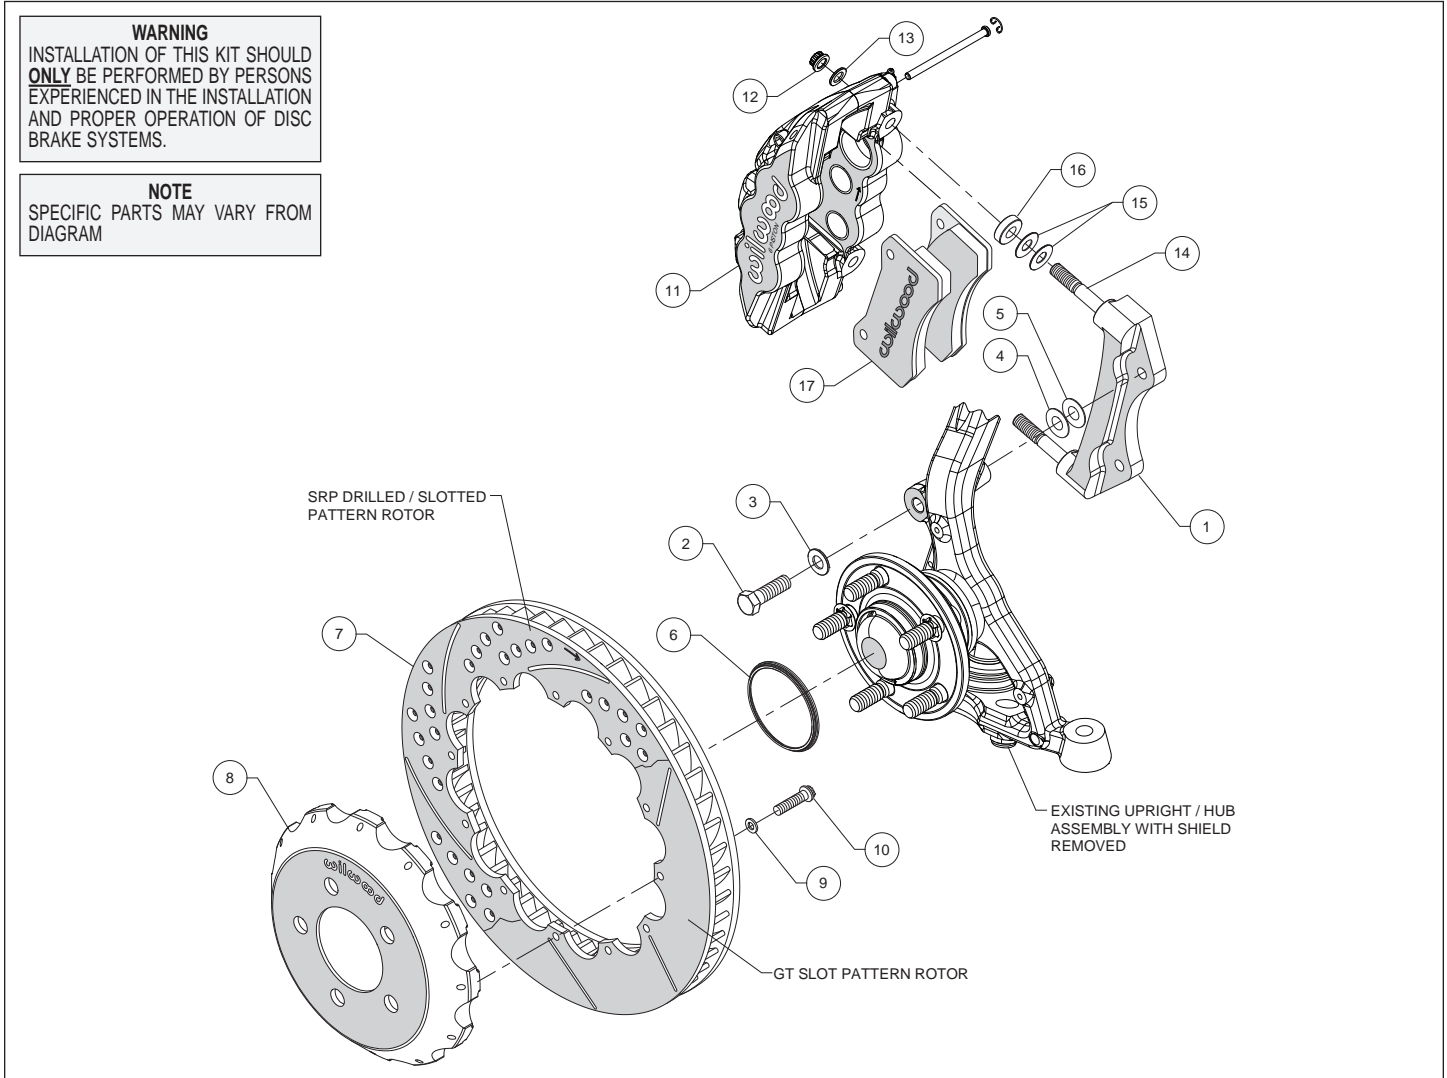
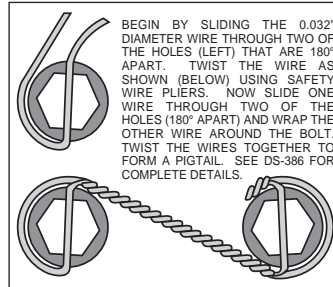

Figure 1. Typical Installation Configuration
Figure 3. Safety Wire Diagram
Assembly Instructions (numbers in parenthesis refer to the parts list and Figure 1 on the preceding pages):
- The caliper mount bracket (1) should initially be installed with clean, dry threads on the mounting bolts. Orient the bracket as shown in Figure 1 and Photo 1 and install using mount bolts (2) and washers (3). Initially place one each .033" thick shim (4), and .015" thick shim (5) on each bolt between the bracket and upright, Figure 1. Temporarily tighten the mounting bolts. **NOTE:** The bracket must fit squarely against the mount bosses on the upright. Inspect for interference from casting irregularities, machining ridges, burrs, etc. Later, after the caliper alignment has been checked, the mount bolts will be secured using red *Loctite*® 271.
- Orient the rotor (7) and the hat (8) as shown in Figure 1 and Photo 2. Attach rotor to hat using bolts (10) and washers (9). Using an alternating sequence, apply red *Loctite*® 271 to the threads and torque bolts to 155 in-lb. For an added measure of security, the bolts may be safety wired using standard 0.032 inch diameter stainless steel safety wire as shown in Figure 3.
- NOTE:** This kit contains distinct right and left hand calipers that must be mounted in a specific direction, as described below. Lubricate the caliper mounting studs (14) with lightweight oil. Initially place two .030" thick shims (15) and spacer (16) on each stud between the caliper and the bracket, as shown in Figure 1 and Photo 4. Mount the caliper (11) onto the bracket (1) using lock nuts (12) and washers (13), Figure 1. Temporarily tighten the lock nuts. Ensure that the caliper is mounted so the largest pistons are at the rotor exit end of the caliper, in relation to the direction of the rotor. View the rotor (7) through the top opening of the caliper. The rotor should be centered in the caliper, Photo 5. If not, adjust by adding or subtracting shims (4 and/or 5) between the bracket and the upright. Always use the same amount of shims on each of the two mounting bolts. Once the caliper alignment is correct, remove the bracket mounting bolts one at a time, apply red *Loctite*® 271 to the threads, and torque to 65 ft-lb.
- Remove the two pad retaining pins from the caliper (11) by carefully popping out the pin retaining clips and sliding out the pins. Insert the brake pads (17) into the caliper from the bottom, Figure 1 and Photo 6. With the friction material facing the rotor, secure the brake pads in place with the pad retaining pins and clips, Photo 7. Reinstall the caliper onto the caliper mounting bracket and temporarily tighten the lock nuts. Check that the top of the brake pad is flush with the outside diameter of the rotor, Photo 8. If not, adjust by adding or subtracting shims (15) between the caliper and the bracket. After the caliper pad height is set, torque the caliper lock nuts (12) to 47 ft-lb.